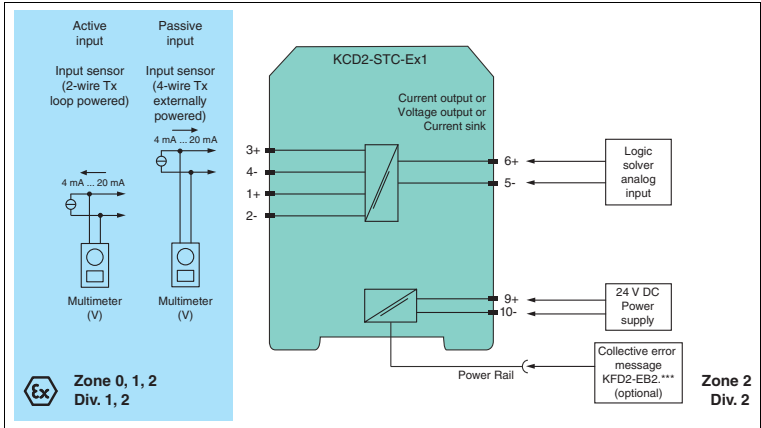
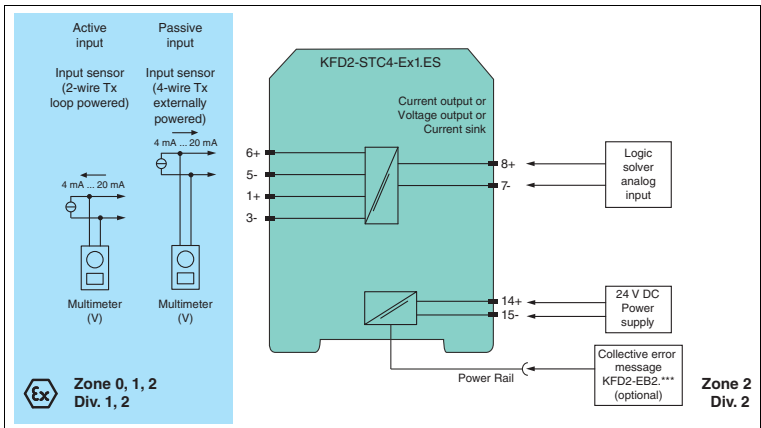
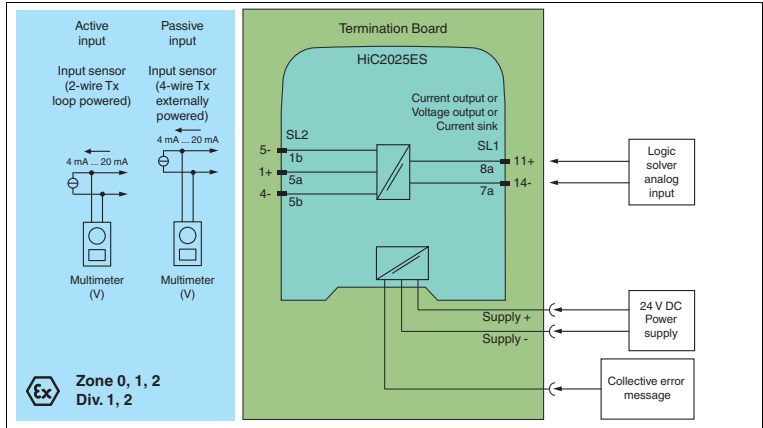
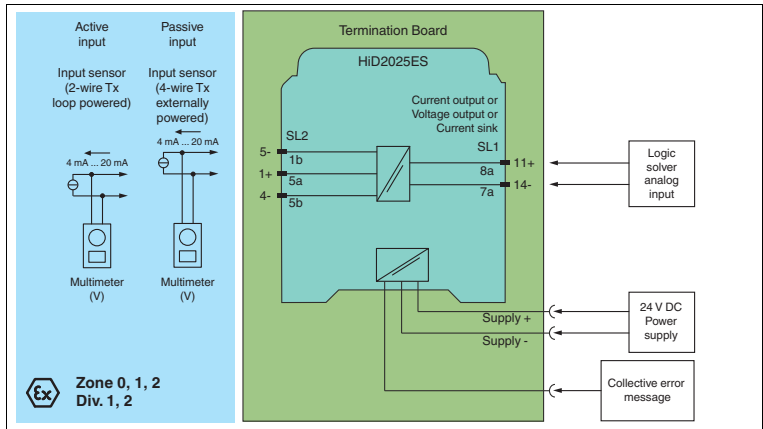

Figure 4.1 Proof test set-up for KCD2-STC-Ex1.ES(.SP)
Figure 4.2 Proof test set-up for KFD2-STC4-Ex1.ES
Figure 4.3 Proof test set-up for HiC2025ES
Figure 4.4 Proof test set-up for HiD2025ES
- Prepare a test set-up for testing the KCD2-STC-Ex1.ES(.SP) device (see Figure 4.1), the KFD2-STC4-Ex1.ES device (see Figure 4.2), the HiC2025ES device (see Figure 4.3) or the HiD2025ES device (see Figure 4.4). Choose the proper input terminals (passive input or active input) in accordance with the specific application and follow the steps indicated in the table below.